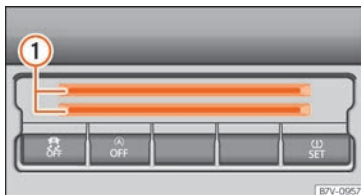

**Fig. 162** Lower part of the centre console: card compartment.
To the bottom of the centre console there is a compartment » **Fig. 162** ① for coins, cards, car park tickets and similar items.